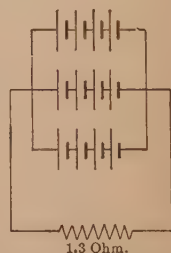

FIG. 180. Three parallel rows of 4 cells in series.
(3) Three parallel sets of 4 cells in series: Fig. 180.